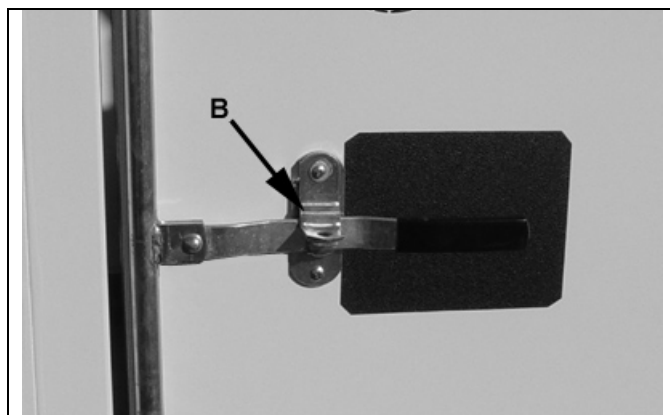

Figure 5-3 – Close and Latch Doors
- Close the trailer tack compartment and door. Secure the trailer door latch (B) as shown in figure 5-3 and insert a lock pin through the latch so that the door cannot open while the trailer is being towed.